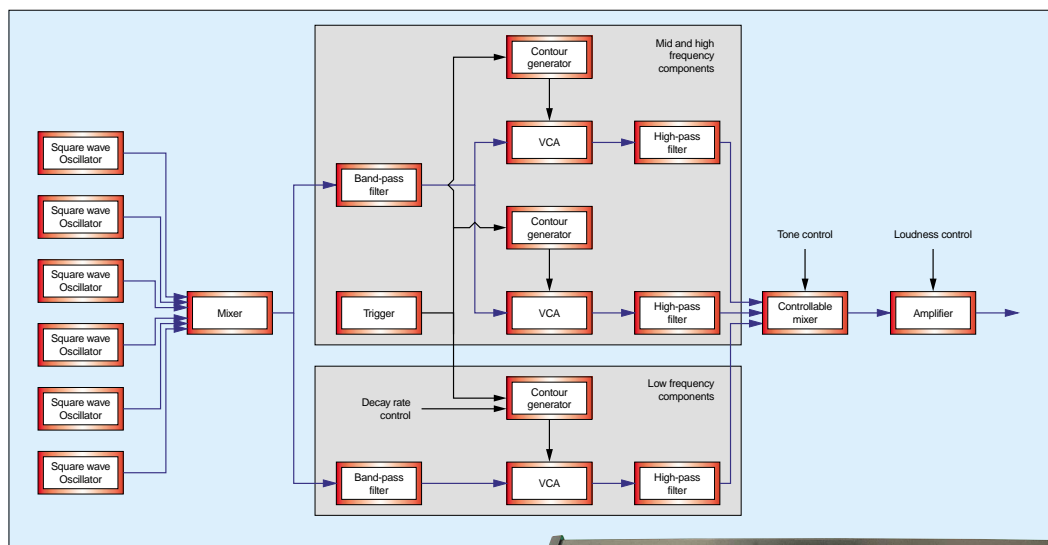
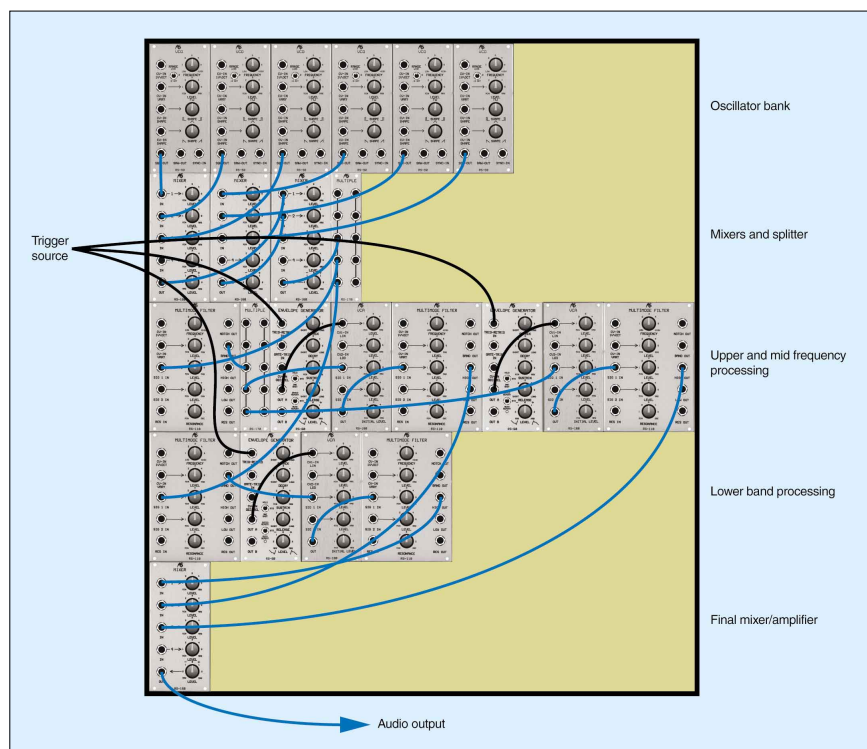

Figure 5: The TR808 cymbal in Synth Secrets format.
Figure 6: Recreating the TR808 cymbal on a modular synthesizer.
► on a conventional analogue synthesizer. Just for fun, I've drawn Figure 6 (below), which shows a modern analogue synth — an Analogue Systems RS Integrator — configured to emulate the TR808 cymbal. That's right... this monster of a patch is *just* the cymbal in Figure 5. Note that I have not set the knobs on these modules to appropriate values... simply selected and patched the modules needed to do the job.
Adding up the cost of the modules, cases and PSUs in Figure 6, I reckon that we're looking at a collection of synth modules worth around £1500. Of course, unlike the TR808 cymbal circuit, this Integrator could produce a zillion and one other sounds, and with far higher fidelity than any analogue drum machine. Nonetheless, the diagram shows us that Roland's engineers were very smart cookies indeed.
Rather than patch the unrealistic monster in Figure 6, I'm now going to try — and, as you will see, fail — to create an acceptable cymbal